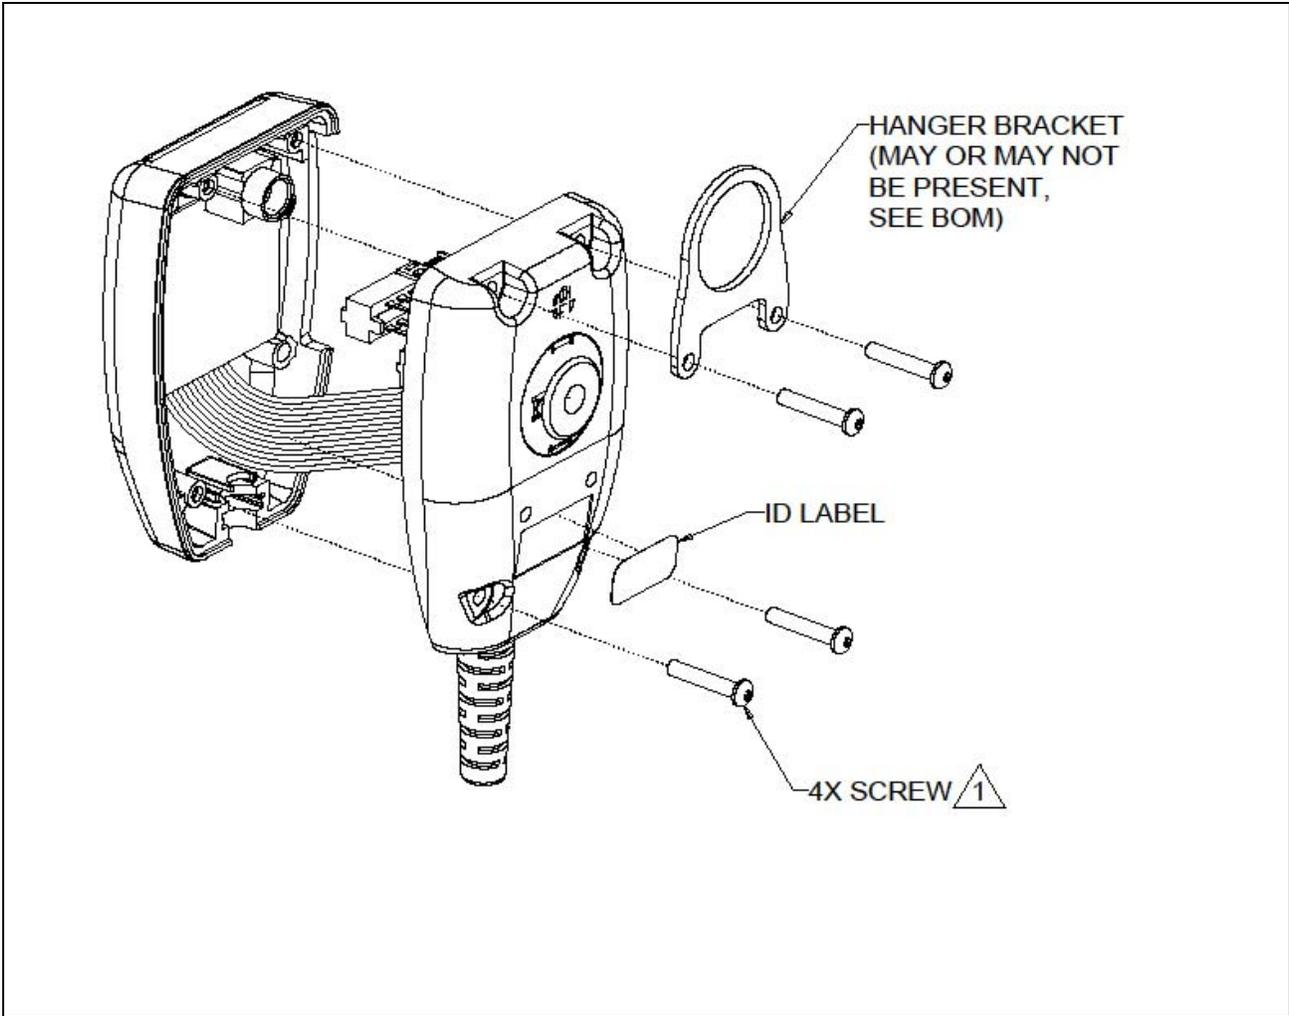

Figure 1
3. See figure 1 and 2. While opening up the unit, carefully disconnect the front microphone tunnel from the rear microphone tunnel. The drawings show the order of assembly of the felt, microphone, and tunnels.